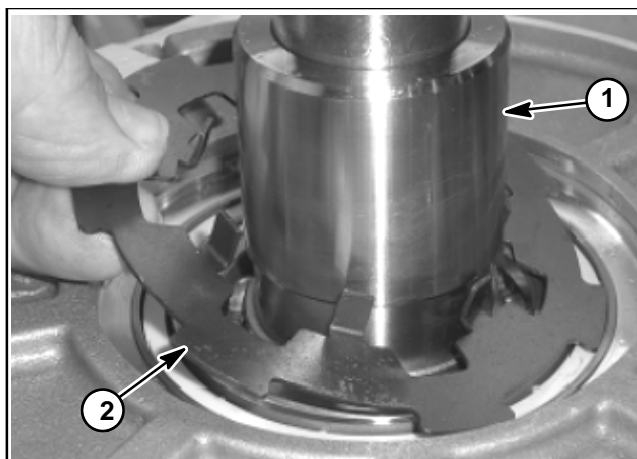

Figure 22
15. Remove the armature plate from the cover plate (Fig. 22).